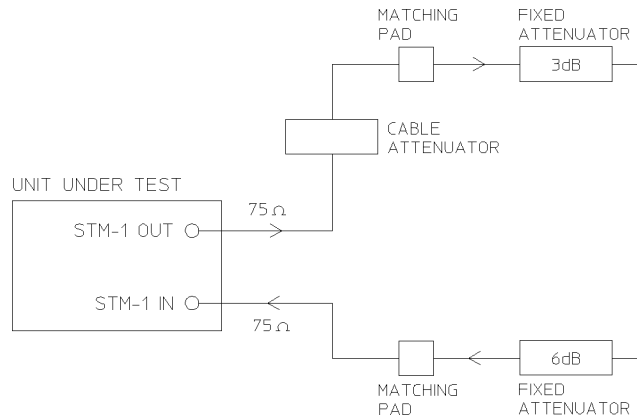

Figure 3-42
3. Connect up the equipment as shown in Figure 3-42.